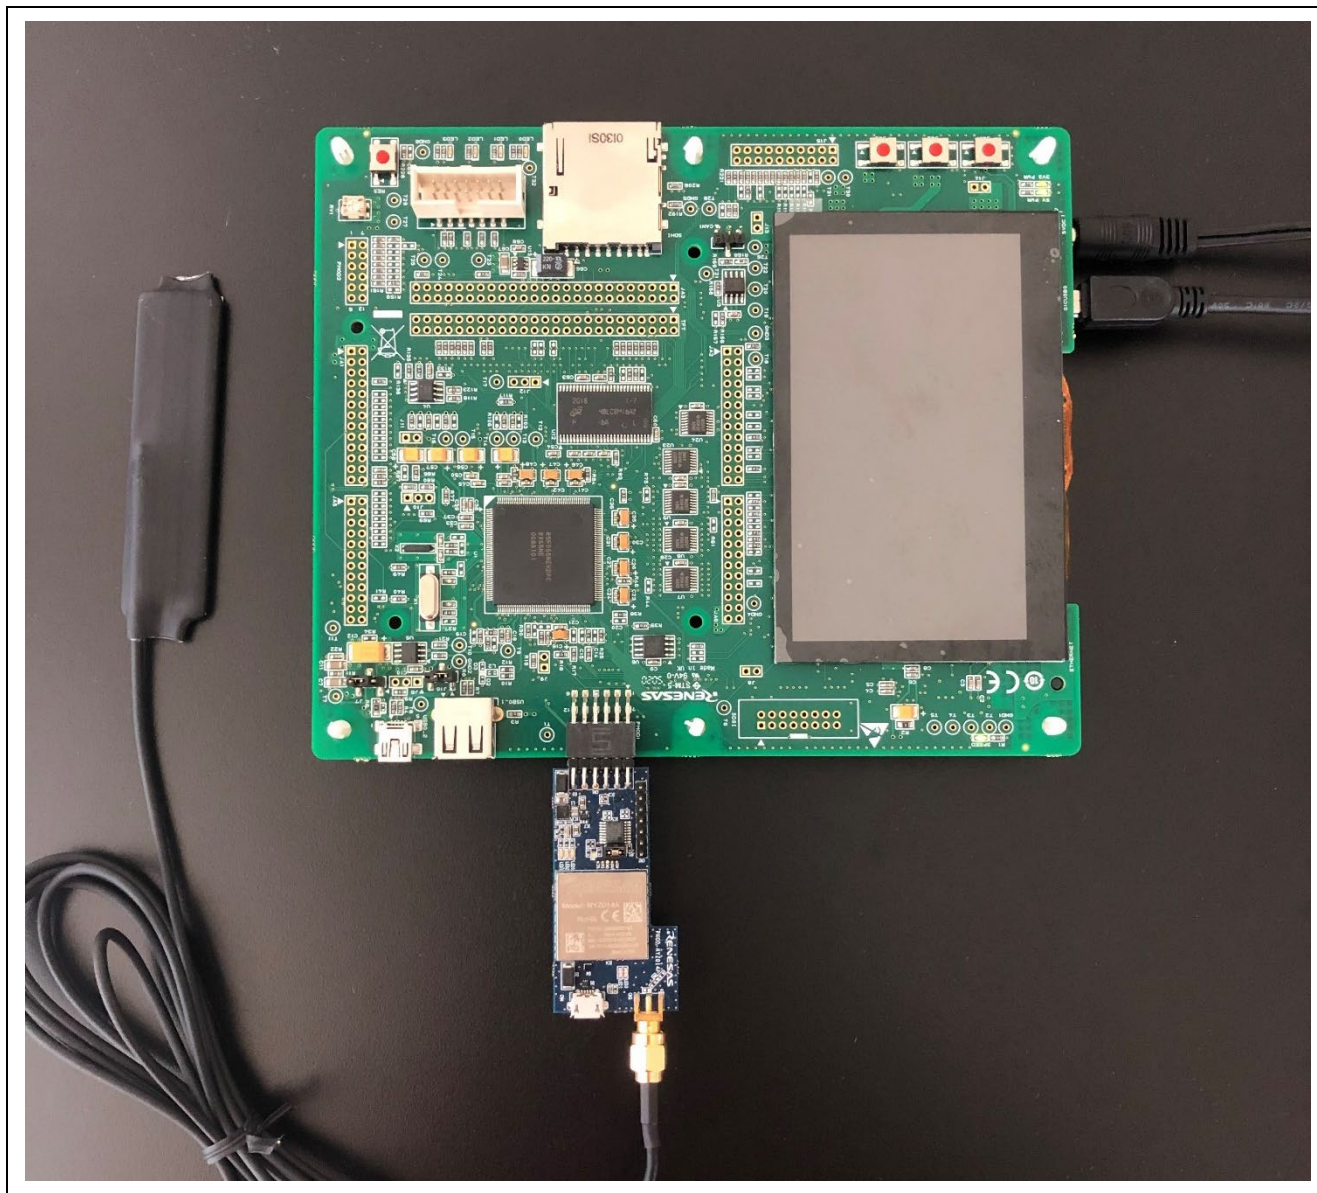

Figure 4. Connections for the RSK-RX65N-2MB Board After Flashing
- E2 Lite Debugger is disconnected when trying to run the code. Refer to **Figure 4**.